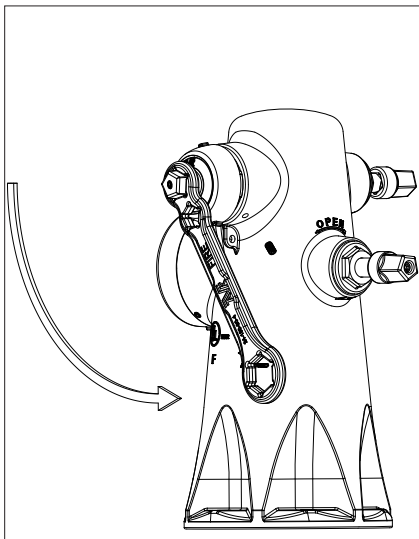

Fig. 3D
4. Loosen the cap, then finish removing the cap/nozzle assembly. (See Figs. 3D & 3E)